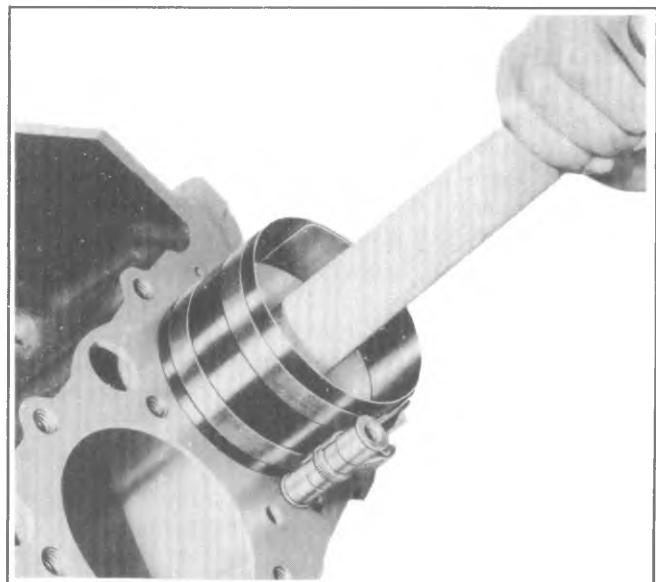

Fig. 6A2-72--Installing Connecting Rod & Piston Assembly
4. Install each connecting rod and piston assembly in its respective bore. Install with connecting rod bearing tang slots on side opposite camshaft. Use Tool J-8037 to compress the rings (fig. 6A2-72). Guide the connecting rod into place on the crankshaft journal with Tool J-5239 (3/8") or J-6305 (11/32"). Use a hammer handle and light blows to install the piston into the bore. Hold the ring compressor firmly against the cylinder block until all piston rings have entered the cylinder bore.